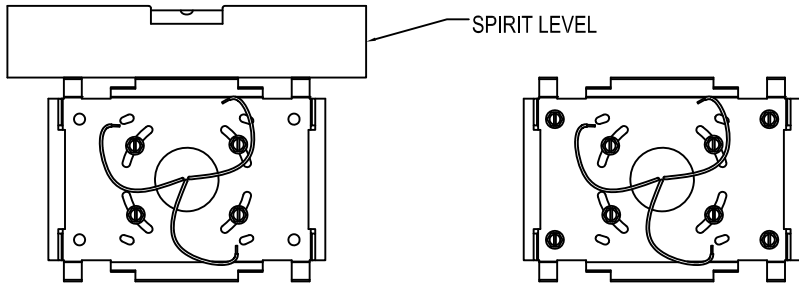

FIGURE 5
5. LEVEL MOUNTING PLATE TO WALL USING A SPIRIT LEVEL. SEE FIGURE 5.